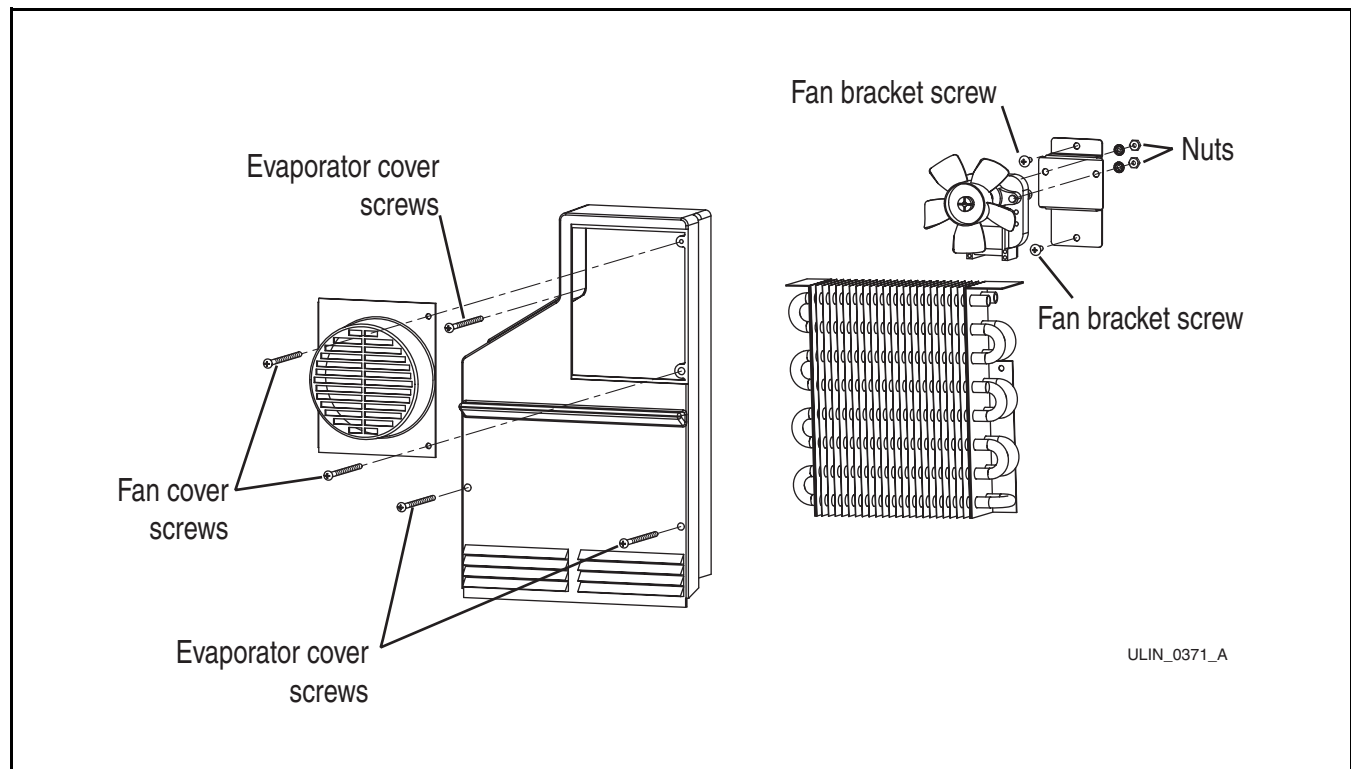

Figure 58. CO2175F/2175RF
2. Remove two screws (**Figure 58**) from fan cover.
2. Remove two screws (**Figure 58**) holding evaporator fan cover to evaporator cover.
2. Remove two screws (**Figure 58**) holding evaporator cover to drain pan.